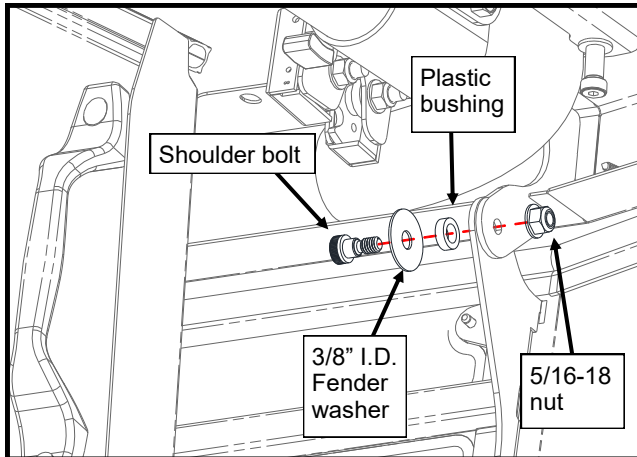

Figure 9.1: Upper Rear Panel Hardware
- 9.1 With assistance, align the upper rear panel to the hinge tabs of the upper header, with the rear panel tabs to the inside of the rear header tabs. Secure the upper rear panel to the rear header with two shoulder screws, 3/8" ID washers, plastic spacers and 5/16" nuts (see Figure 9.1). Torque to 16 ft-lbs. (21.5 N-m).